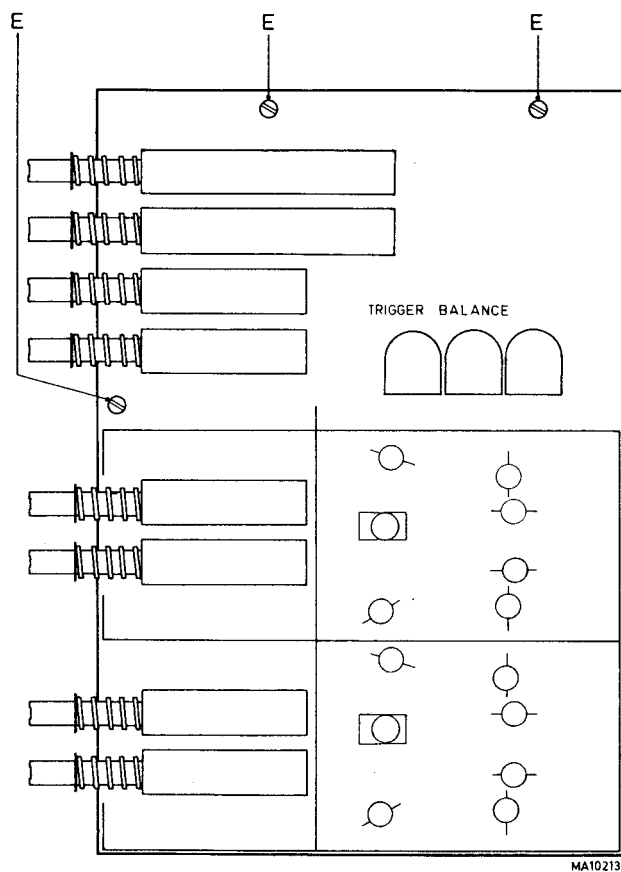

Fig.5.4. Removal of the attenuator board
- Remove the three screws E that hold the attenuator board to the frame bar (Fig. 5.4.).